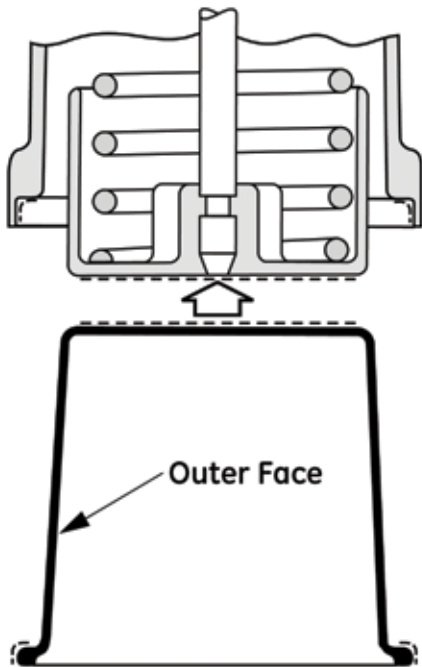

Figure 9
1. Apply coating of Neoprene glue (or similar) on the bead and on the inner face of the diaphragm (105), on the piston (108) and in the spring barrel lip (103). (The inner face of the diaphragm in contact with the piston is marked "Piston Side" ; be careful to keep coating of Neoprene within limits corresponding to flat part of piston (see Figure 9).
2. Center and place the diaphragm on the piston. Apply coating of talc to outer surface of diaphragm (see Figure 9).